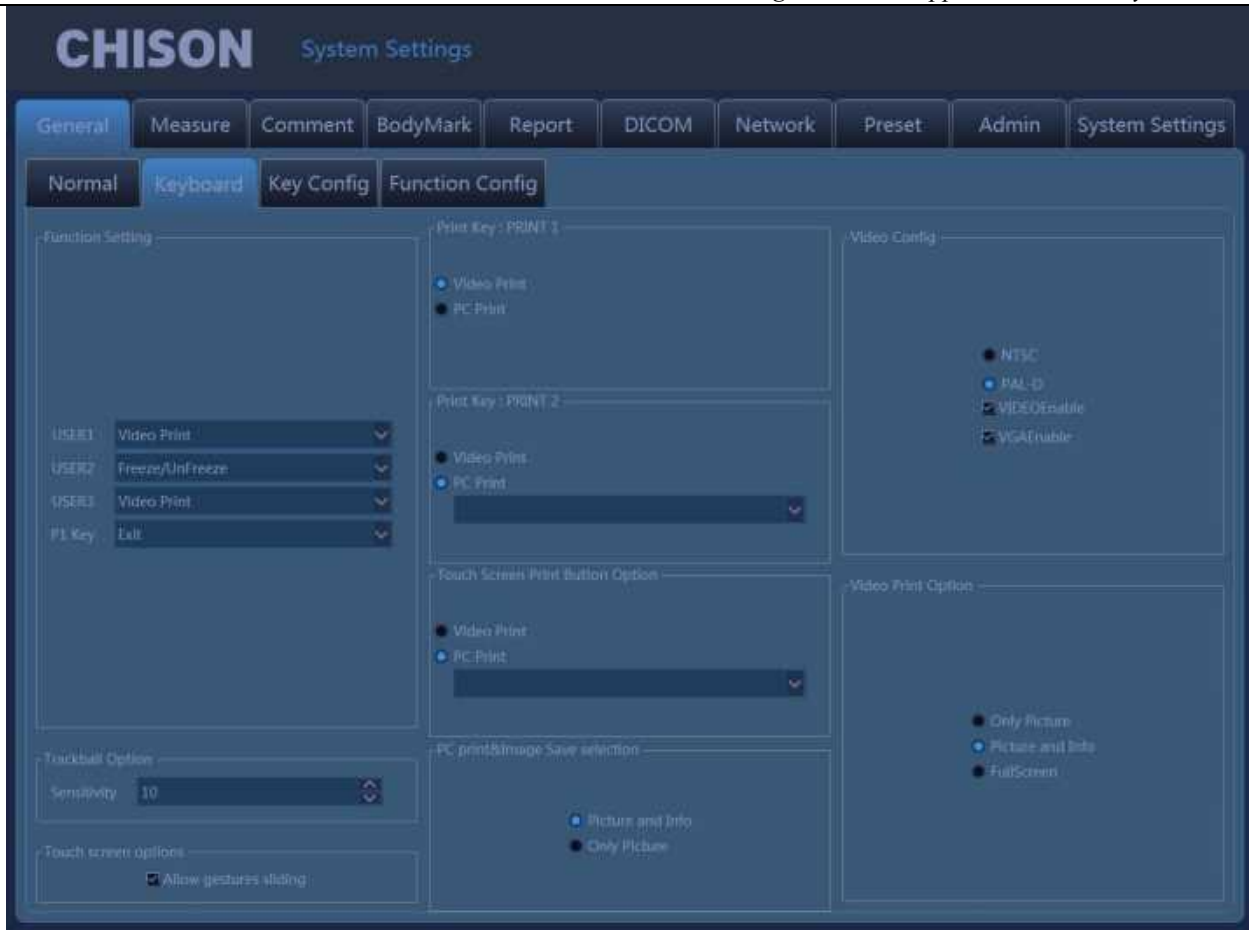

Fig.3-3
- 1) Press the  key to enter "System Settings" interface, select "General", click "Keyboard". See picture in Fig.3-3.